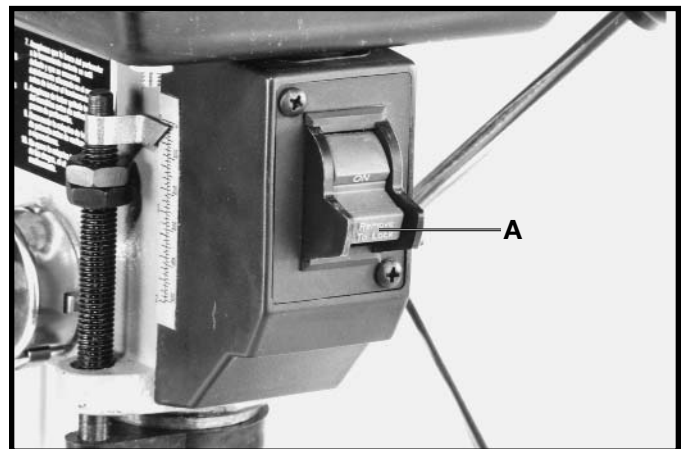

Fig. 15
The switch (A) Fig. 15, is located on the front of the drill press head. To turn the drill press **“ON”** move the switch up to the **“ON”** position. To turn the drill press **“OFF”** move the switch down to the **“OFF”** position.